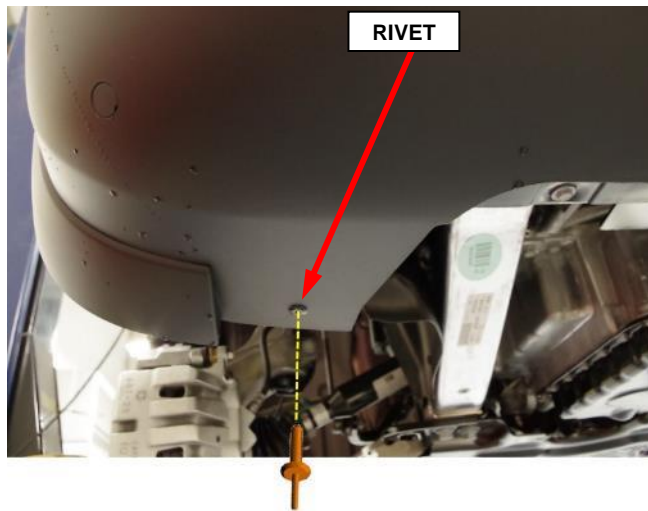

Figure 8 – Front Wheelhouse Rivet
- 13. **Upland / Trailhawk:** Remove the **single rivet** securing the wheelhouse splash shield to the front fascia on both sides of the vehicle (Figure 8).